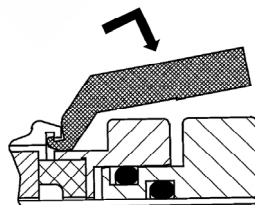

Figure 2
13. **Do not rotate the shaft with the centering clips installed until the setscrews have been loosened. Rotating the shaft with centering clips and tightened setscrews could score the seal face.** Install brass-centering clips as shown in figure 2. NOTE: There are (4) centering clips and (10) female threaded ports that they will fit. You must install the clips in the correct female ports. The female ports are located in the 3, 6, 9, and 12 o'clock positions on the Olympia Seal above the gland. Two of the proper holes have a flat head anti-tampering screw in them and two of the holes are empty. **DO NOT INSTALL THE CENTERING CLIPS IN HOLES THAT HAVE THE ALLEN HEAD SET SCREWS IN THEM.**